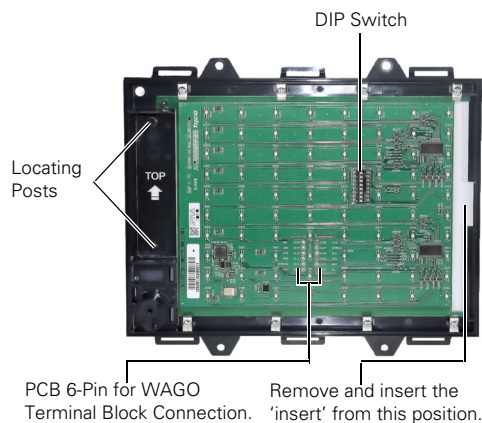
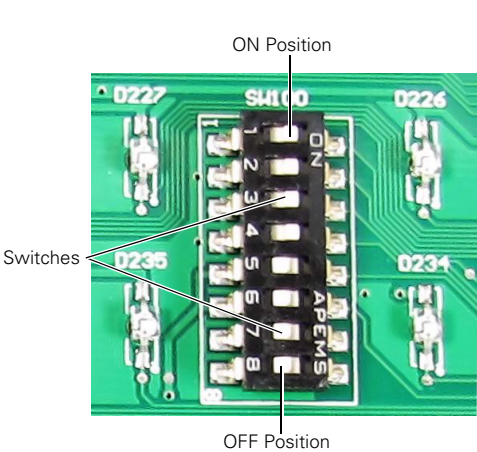

Fig. 9: Zonal Display - Rear View of Front Display
Fig. 11: Zonal Display DIP Switch
- 1 Inside the front cover of the zonal display, identify the exposed edge of the flexible plastic 'insert' labelled as 'TOP', which is just behind the PCB. Refer to Fig. 9.
- 4 On the opposite side of the 'insert'; insert the flat edge of a screw driver under the edge of the 'insert', and lift it clear. Refer to Fig. 9.
The DIP switch is located at rear of the front cover of the zonal display. Refer to Fig. 9 and Fig. 11. Table 1 shows the DIP switch factory default settings for the zonal display.